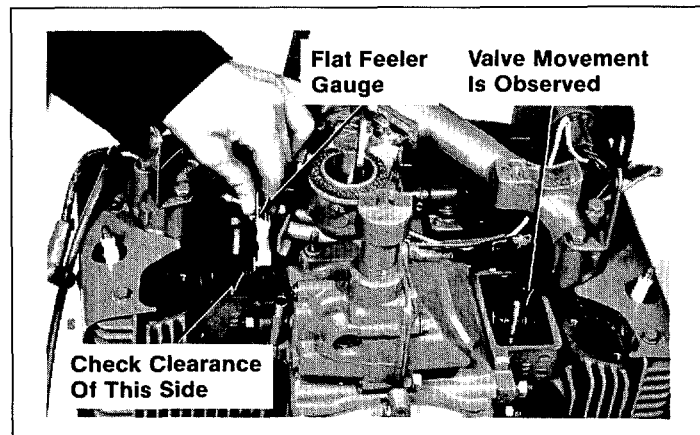

Figure 8. Measuring Valve-To-Tappet Clearance
Every 500 operating hours, remove breather/valve covers and check valve-to-tappet clearance with a flat feeler gauge. Refer to Figure 8. The engine must be cold when checking this clearance.
1. Rotate the flywheel and look into the valve boxes. The valves and tappets will move in only one of the boxes. Measure the valve-to-tappet clearance for the cylinder in which no movement was observed—use a flat feeler gauge. Refer to Figure 8.